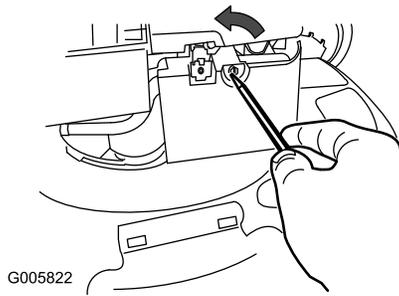

Figure 15
1. Use a screw driver to open the air filter cover (Figure 15).